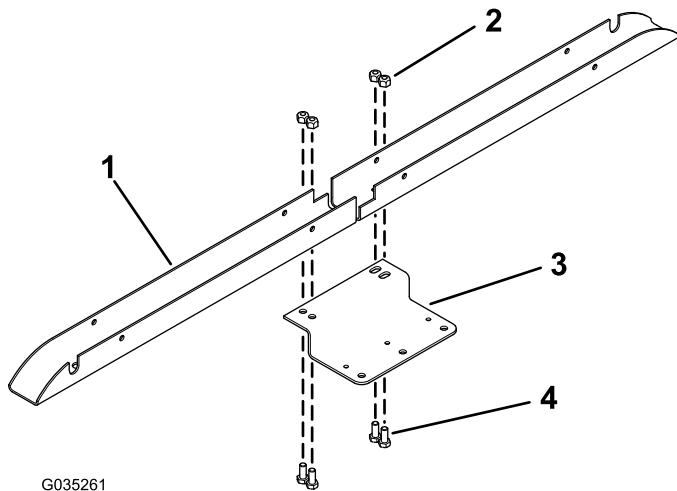

Figure 3
1. Install the work-light bracket to the 2 light channels with the 4 hex-head bolts (5/16 x 3/4 inch) and 4 locknuts (5/16 inch) as shown in Figure 3.